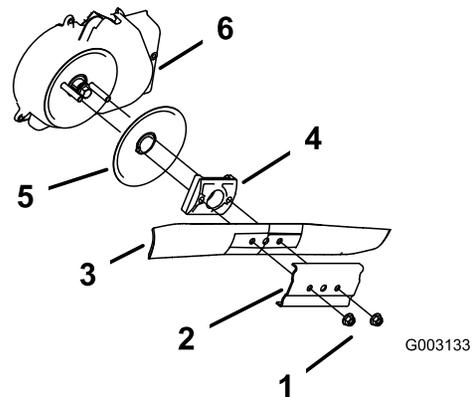

Figure 40
- Remove the 2 blade nuts and the stiffener (Figure 40).
- Remove the blade driver and disk (Figure 40).
- Remove the blade-brake-clutch shield (Figure 40).
- Install the blade and the stiffener that you previously removed (Figure 40).